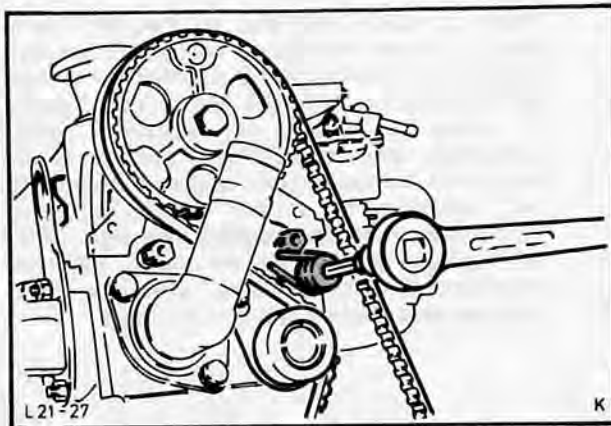

Fig. 204. Slacken toothed belt tensioner using Special Tool 21-012
3. Slacken toothed belt tensioner using Special Tool 21-012 (1 hexagon bolt, 1 special bolt), Fig. 204, press against spring pressure and retighten.